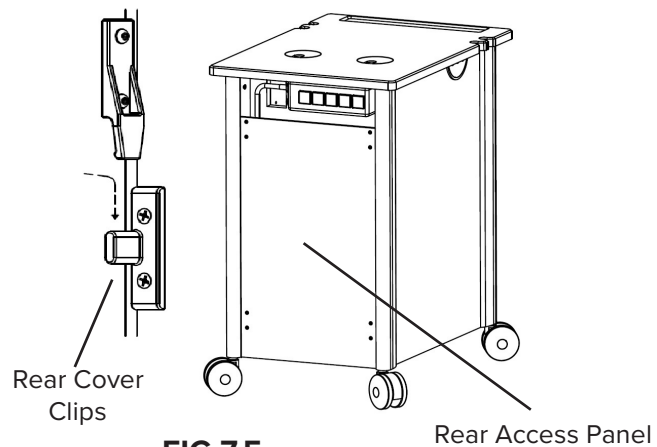

FIG 7.5
- 2.) Place Rear Cover Plate in position to engage Rear Plate Clips and slide down until secure (Fig 7.5).